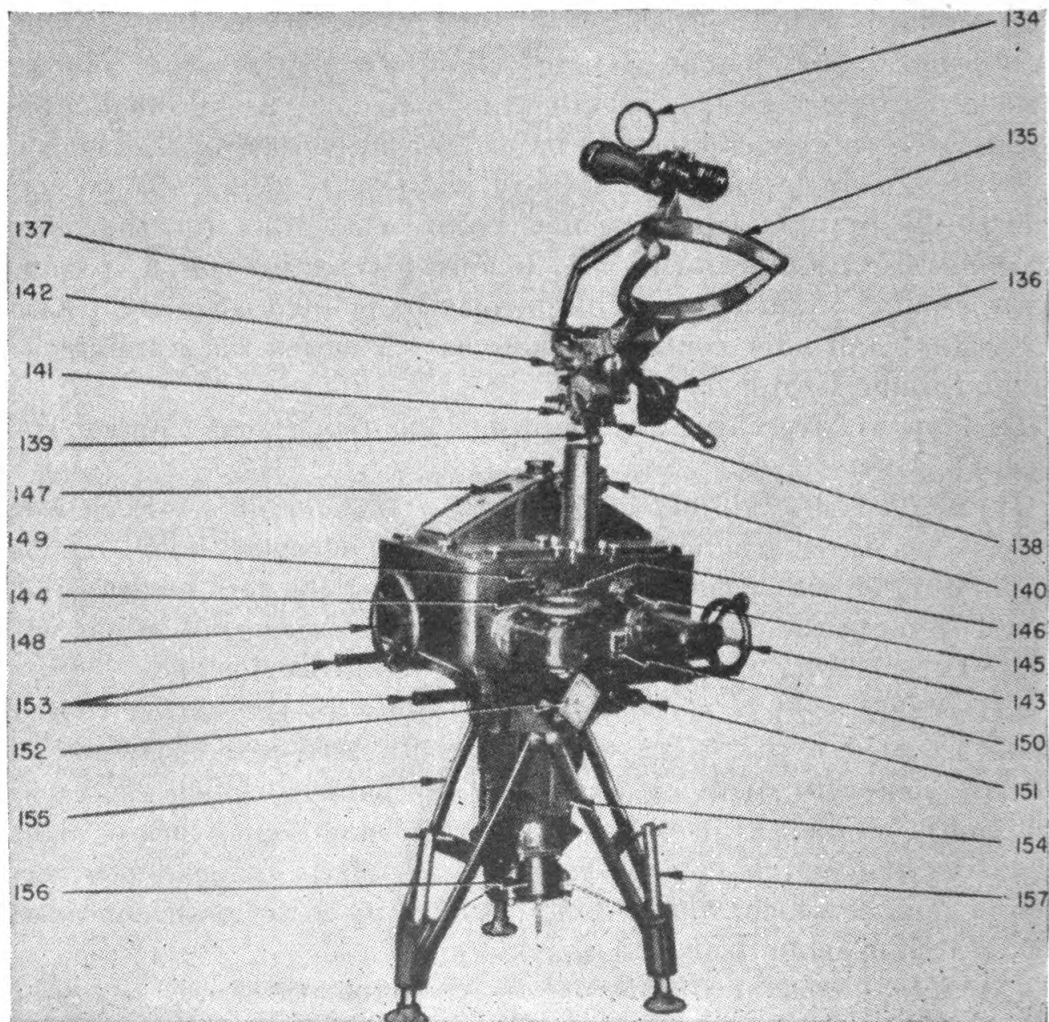

FIGURE 90.—Sperry control station M1941 (binocular mount in position).
Q. Name and give the functions of the various parts of the control station with which your organization is equipped. **A.** See figures 90 to 93, inclusive.
135. Binocular mount.....	See figure 90.
140. Binocular height adjusting knob.....	See figure 90.
141. Binocular mount azimuth slip clutch.....	See figure 90.
143. Observer's elevation handwheel.....	See figure 90.
144. Observer's azimuth handwheel.....	See figure 90.
151. D-c switch.....	See figure 90.
154. Handhole cover plate.....	See figure 90.
156. 15-point cable receptacle.....	See figure 90.
157. Leveling jacks.....	See figure 90.